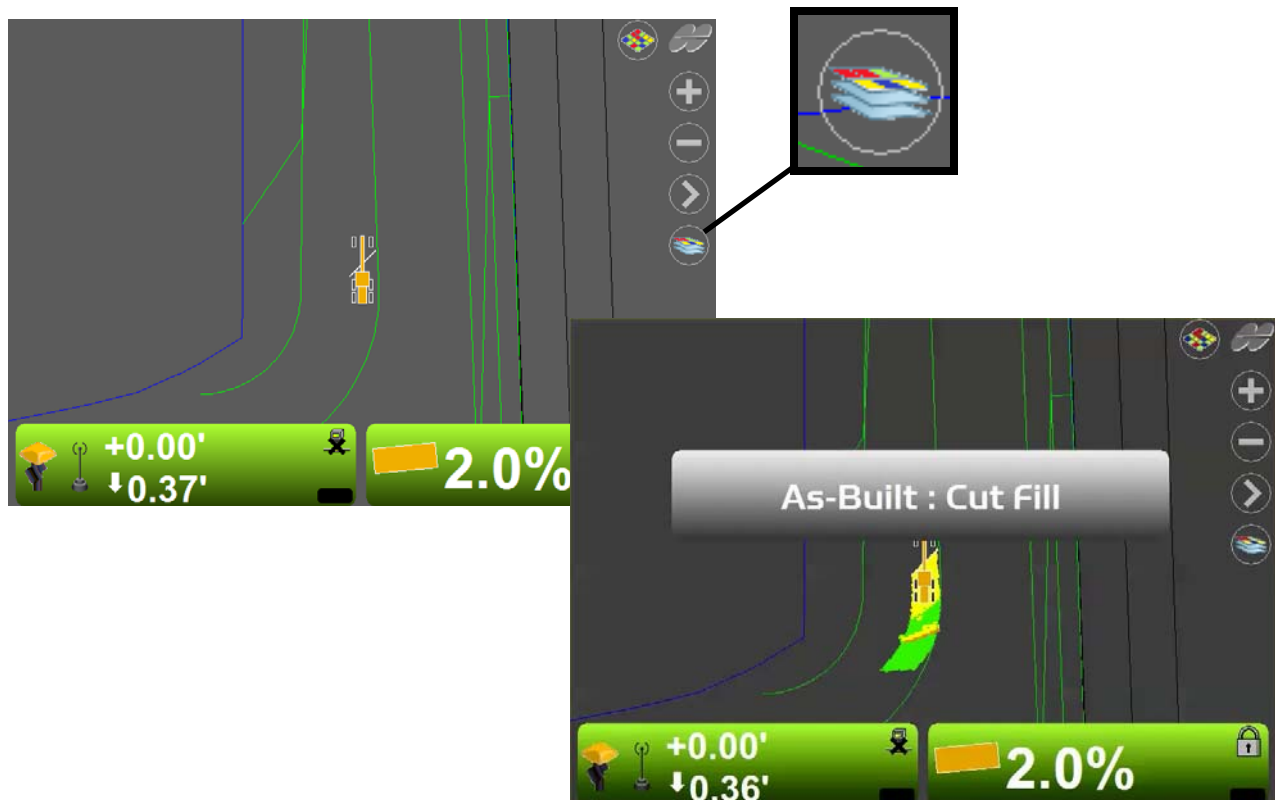

Figure 111: As-built Shortcut Button – Cut/Fill
1. Tap the As-built shortcut button. The main screen displays what the shortcut button is doing (Figure 111).
As Figure 111 shows, tapping the shortcut button changes the As-built to **Cut Fill**.